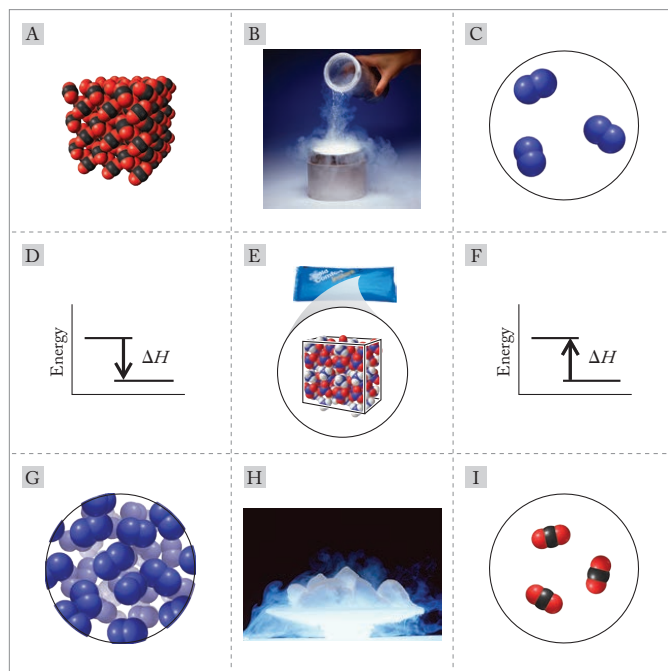

FIGURE P9.8
- 9.8. Use representations [A] through [I] in Figure P9.8 to answer questions a–f.